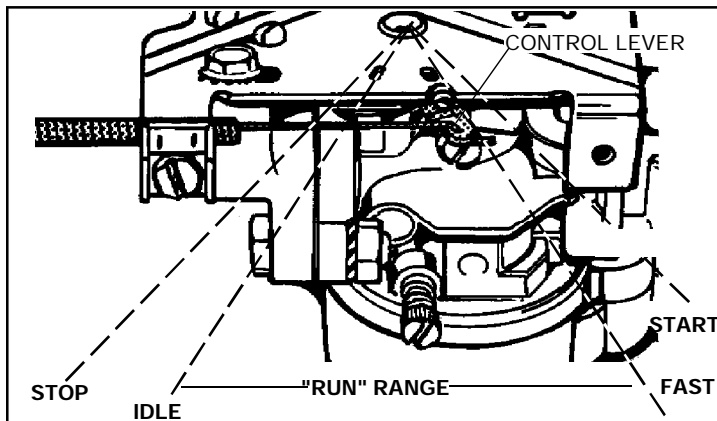

Figure 4
- 1) Move control lever (figure 4) to "CHOKE" or "START" (see equipment manufacturer's instructions). **NOTE:** If restarting a warm engine after a short shutdown, move control lever to "FAST" instead of "CHOKE".
- 1) Move control lever (figure 4) to "CHOKE" or "START" (see equipment manufacturer's instructions).